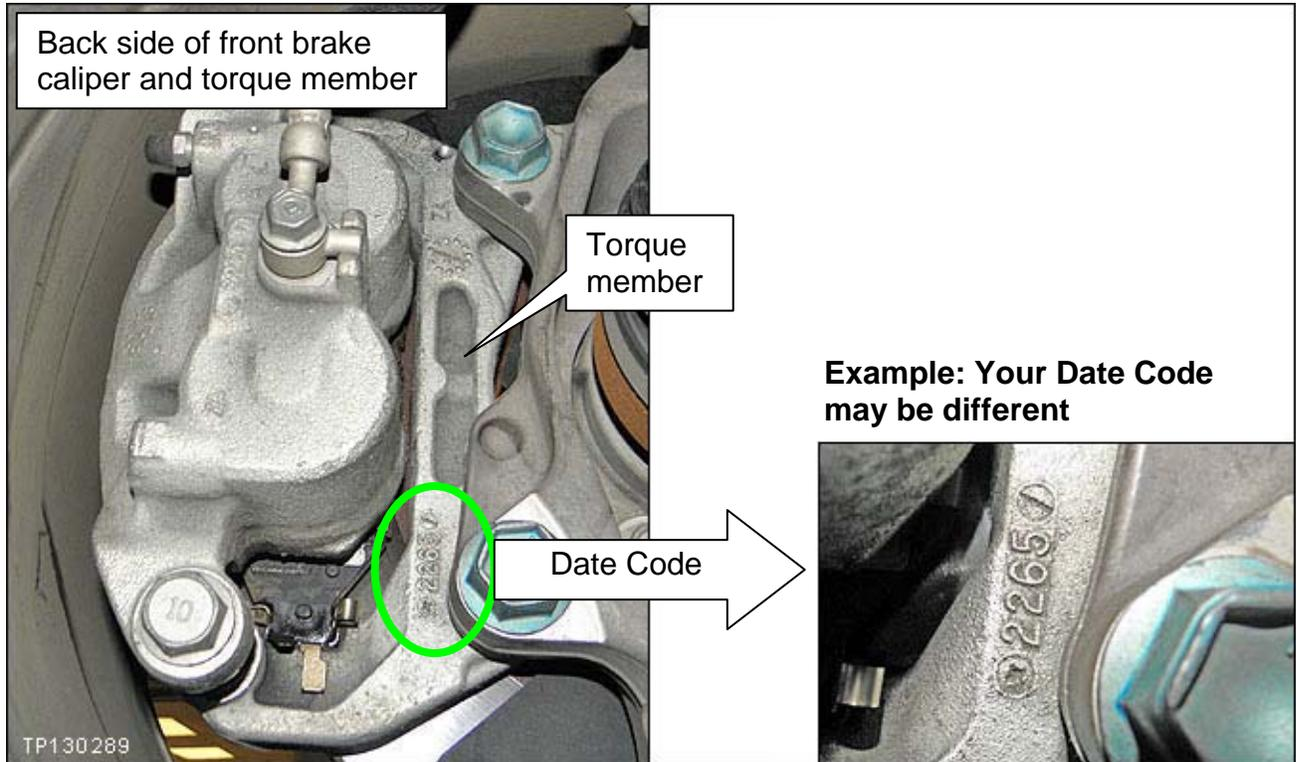

Figure 1
2. On the back side of the front brake torque members (both sides) locate the "Date Code" (see Figure 1).